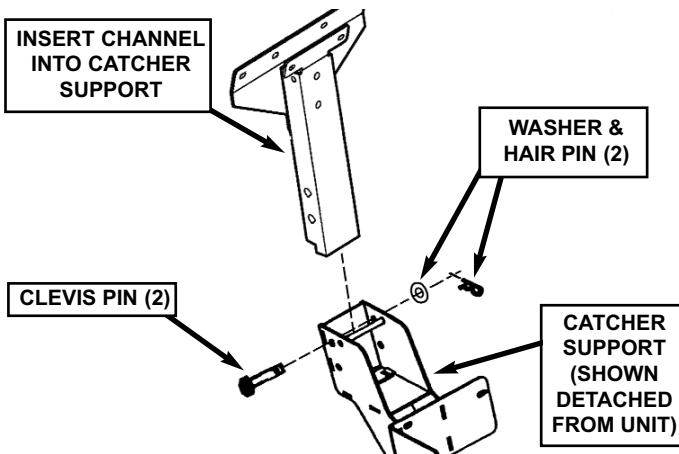

FIGURE 10
STEP 8: Insert the bagger channel into the grass catcher support, and secure with two 1/2 x 4-3/16" clevis pins, washers, and hair pins. See Figure 10.